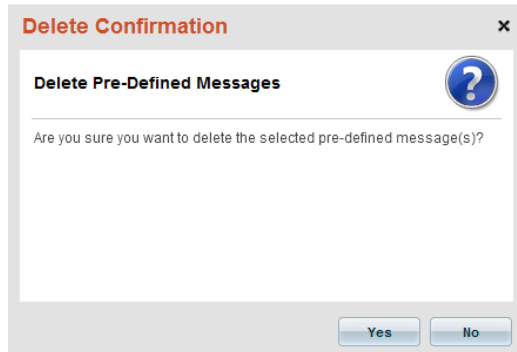

FIG. 394 Delete Confirmation dialog
3. The program will prompt you to verify this action (FIG. 394):